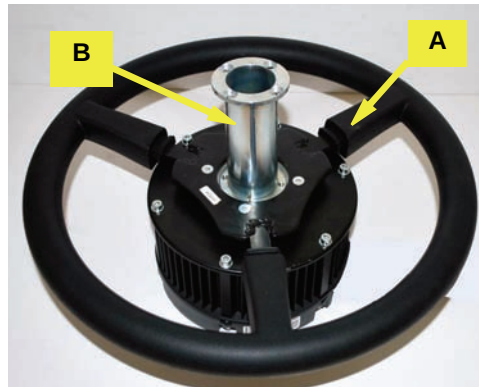

Figure 1b: Inserting the shaft adapter into steering wheel
- b. Place the VSi steering wheel **A** on a clean surface with the wheel facing up. Insert shaft adapter **B** into steering wheel **A** (Figure 1b).